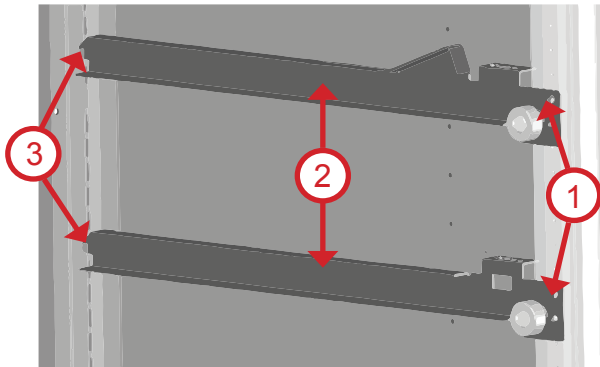

Fig.48 - Installing the shelf guide
- Unscrew the screw (see figure 48, position 1) of the guide, which needs to be removed;
- Remove the guide (see figure 48, position 2) from the groove (see figure 48, position 3);
- Install the guide at its new spot, setting it in the groove and tightening the screw (see figure 48, position 1).